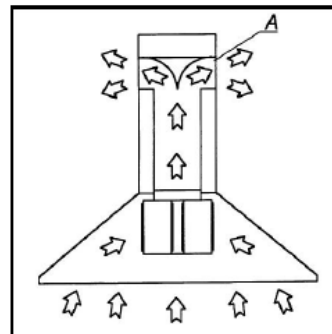

Fig.2
FILTER VERSION (Fig.2) (Optional): Exhausts fumes and smells normally recycled to the inside of the premises (A). This option can be used if it is not possible to exhaust outdoors.